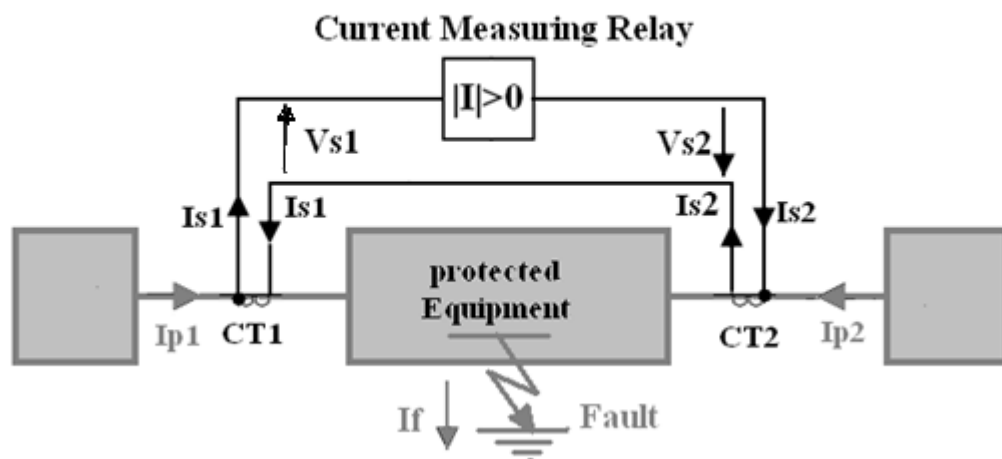

Fig 5.
- During internal fault  $V_{s1} - V_{s2} \neq 0$ , this will drive current through the operating coil of the relay and the relay will operate.Fig.5.